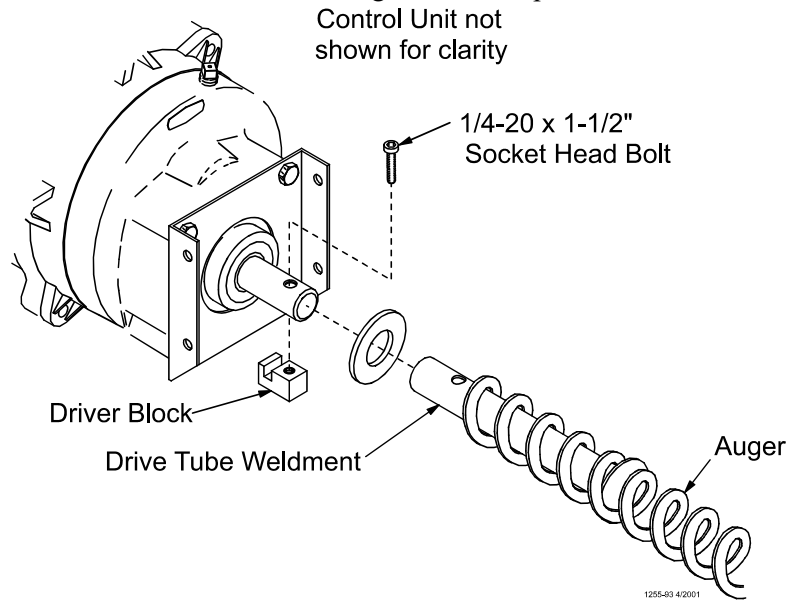

Figure 37. Auger Driver Components
4. Slide the Drive Tube and flat washer over the output shaft on the Power Unit, as shown in **Figure 37**.
6. Turn the Drive Tube Weldment into the auger, then attach to the output shaft of the Power Unit, as shown in **Figure 37**. Use the Driver Block to secure the auger to the Output Shaft.